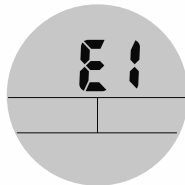

Figure 7
Step 5: When the motor speed has exceeded 3m/h to the preset speed during exercising, press the **STOP** button and check, the speed has to be slowed down to 0 in 30 seconds. If not, the monitor will show **E1**, an error sign as reminder to the user. The monitor starts to beep continuously till the AC power is switched off manually and then the motor will stop too. (figure 7)